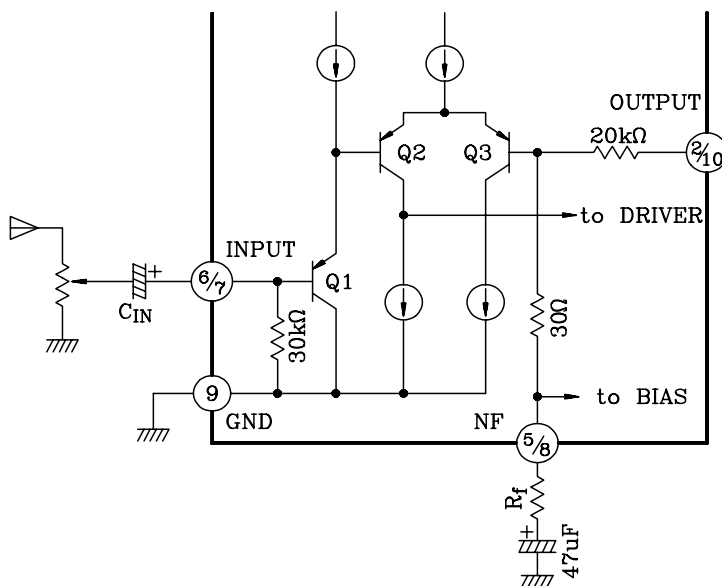

Fig. 2
The input circuit of this IC is as shown in Fig. 2. PNP TR:Q1 is provided in the input circuit so as to make its usage possible without the input coupling capacitor. However, at pins ⑥ and ⑦, max 60mV offset voltage is produced. Application after checking volume slide noise is recommended. For cutting the volume slide noise, insert the input capacitor : C_{IN} in series to interrupt the DC component.